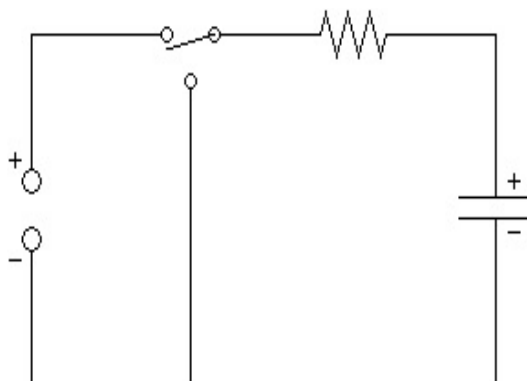

Figure 1: RC Circuit Diagram
1. The circuit as shown in Figure 1 is a representation of the RC circuit board provided.